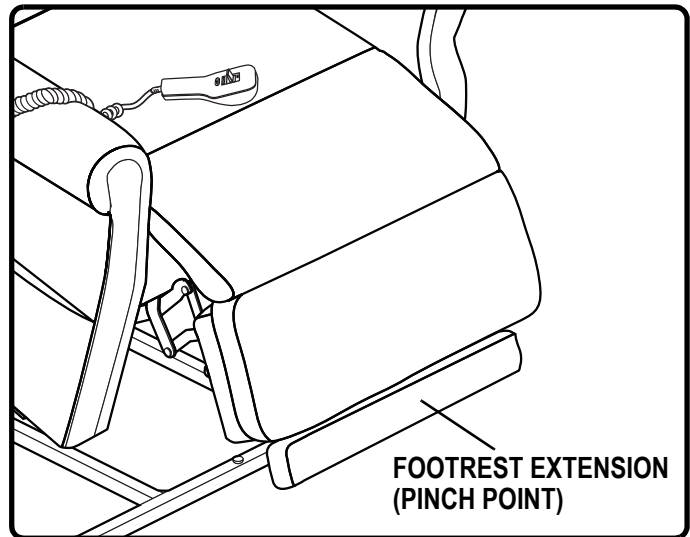

Figure 3.2 Footrest Extension
**Footrest Extension:** Provides 8 cm (2 in.) of extension to the footrest, increasing the leg support for taller individuals when the recliner is in the recline position (**Fig. 3.2**). This feature is optional for the 570KD Riser Recliner.